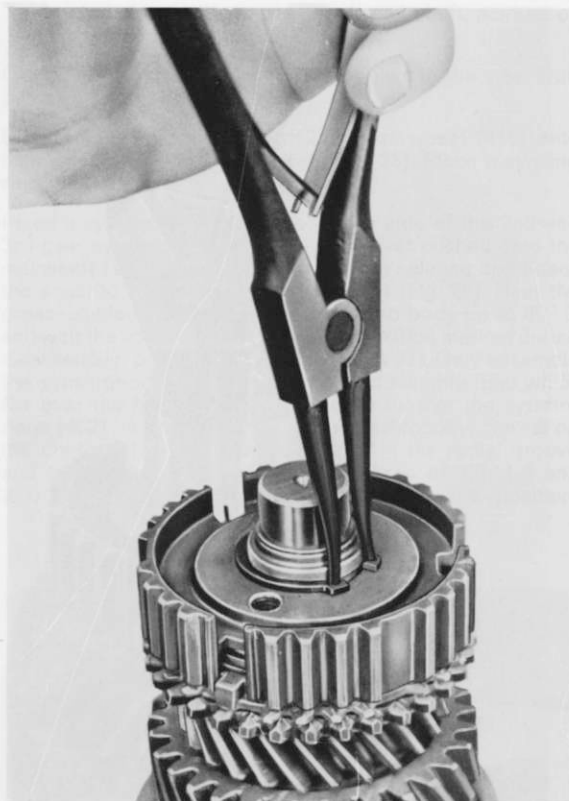

Fig. 21
3. Clamp mainshaft with the input side upwards between soft jaws of a vice. Remove input shaft (213), roller cage bearing (214) and synchro ring (402). Remove synchro spring (403). Pull off sliding sleeve (406) and dismantle pressure piece (404). Remove circlip (401) and mark position of the synchrobody on the shaft (Fig. 21).